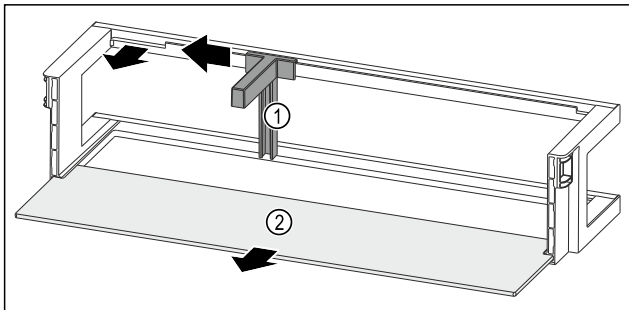

Fig. 249 Door rack with bottle holder and shelf
- ▶ Slide the bottle holder Fig. 249 (1) to the side as far as the recess.
- ▶ Remove the bottle holder Fig. 249 (1).
- ▶ Remove the shelf Fig. 249 (2).